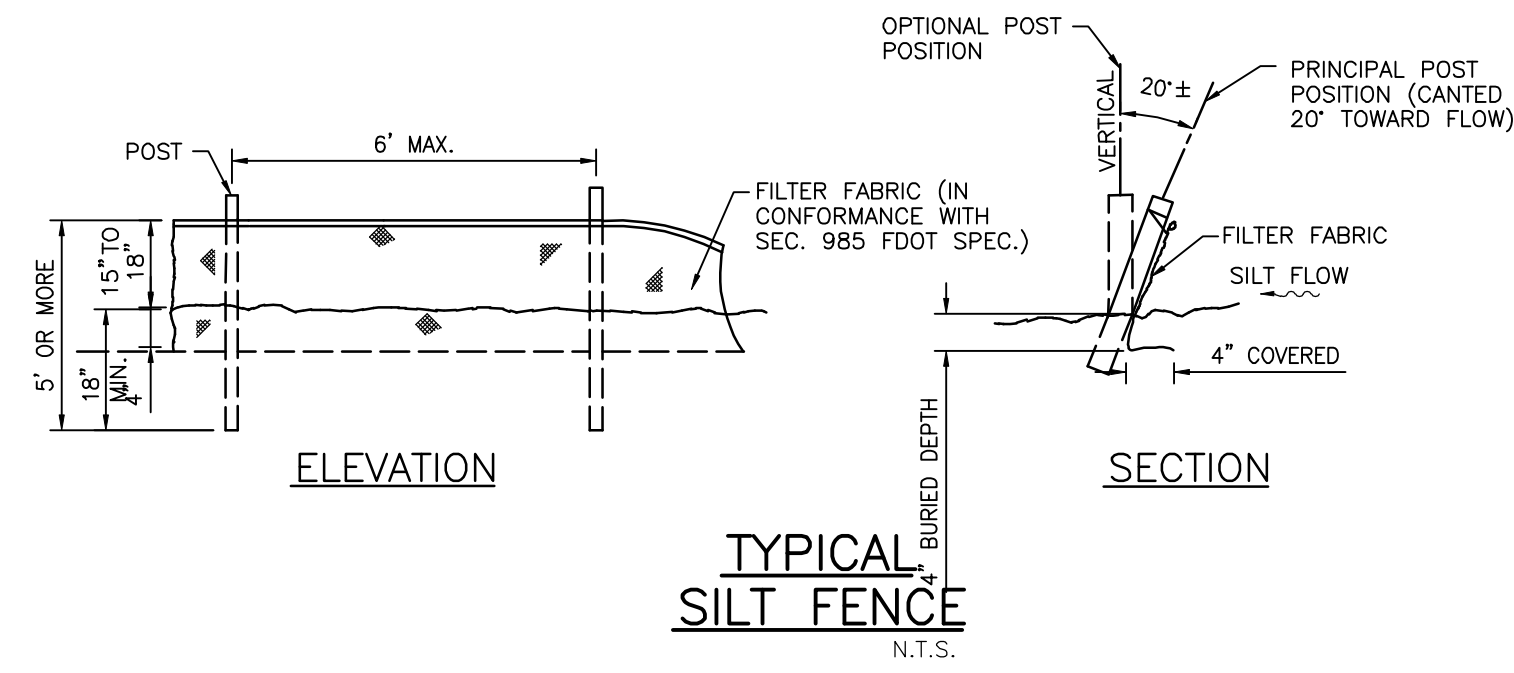

FIGURE 2
- 2 SILT FENCE (AS PER BEST MANAGEMENT PRACTICES DETAILS, FIGURE 2)